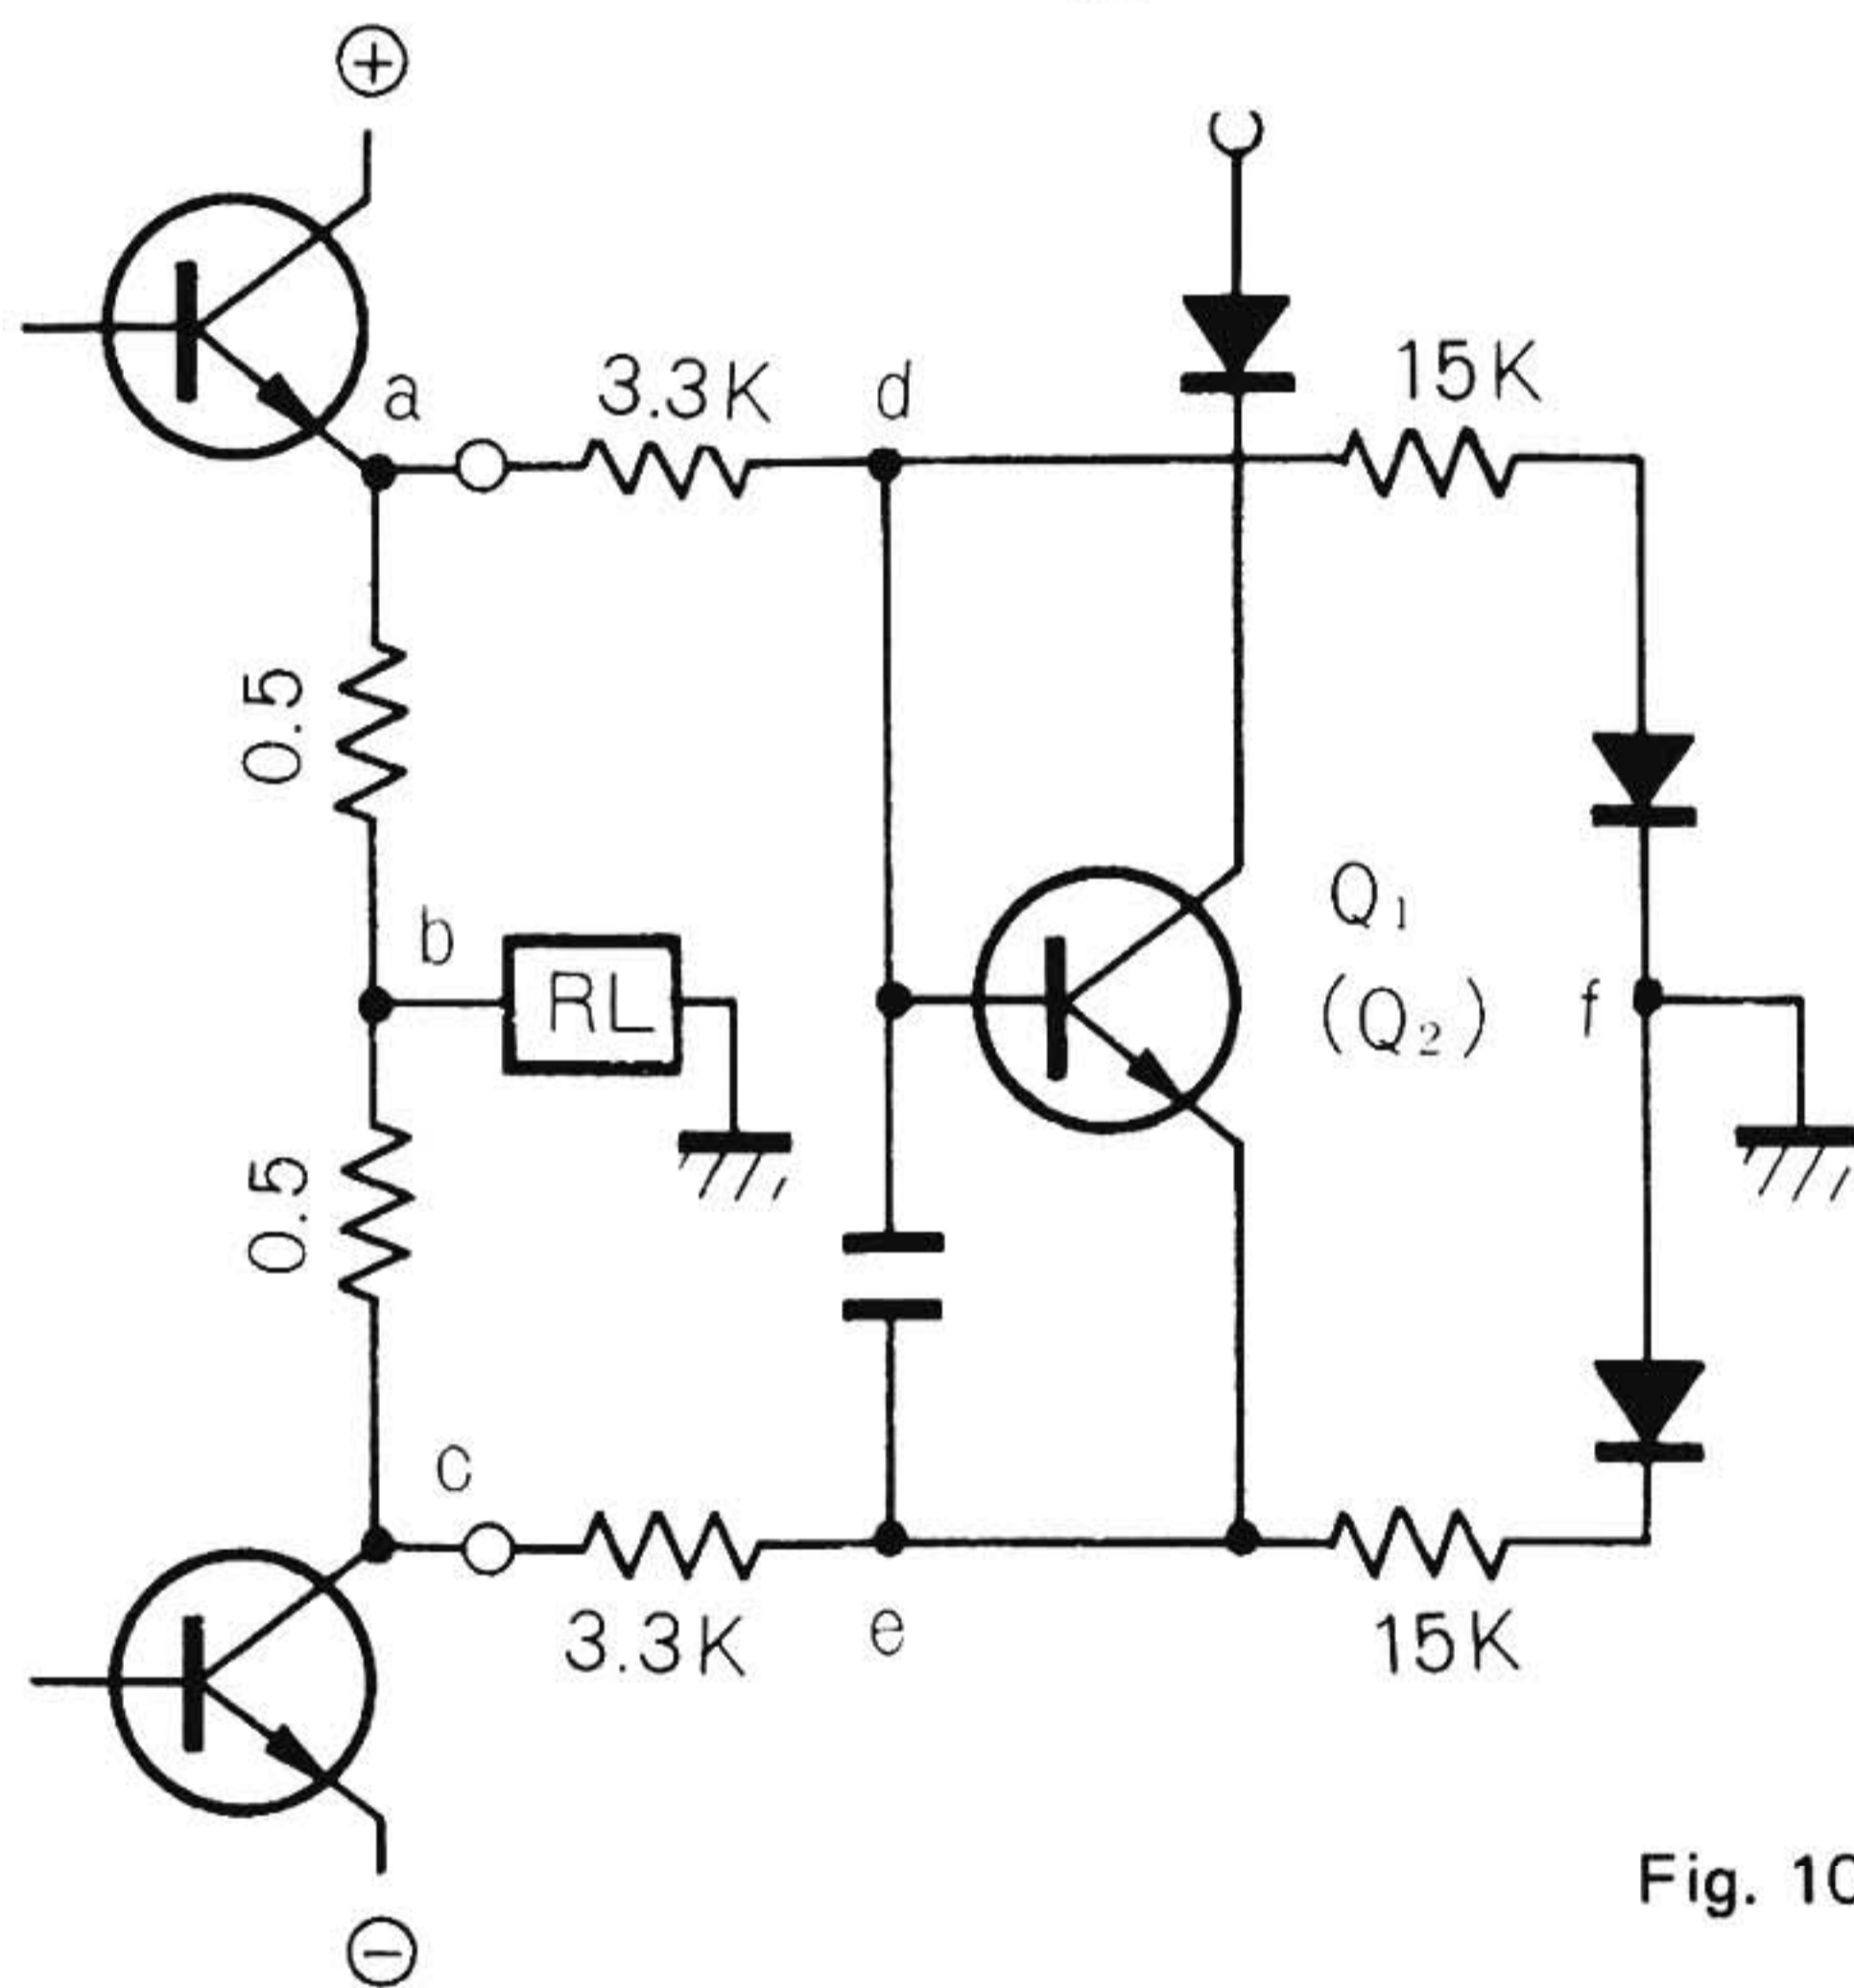
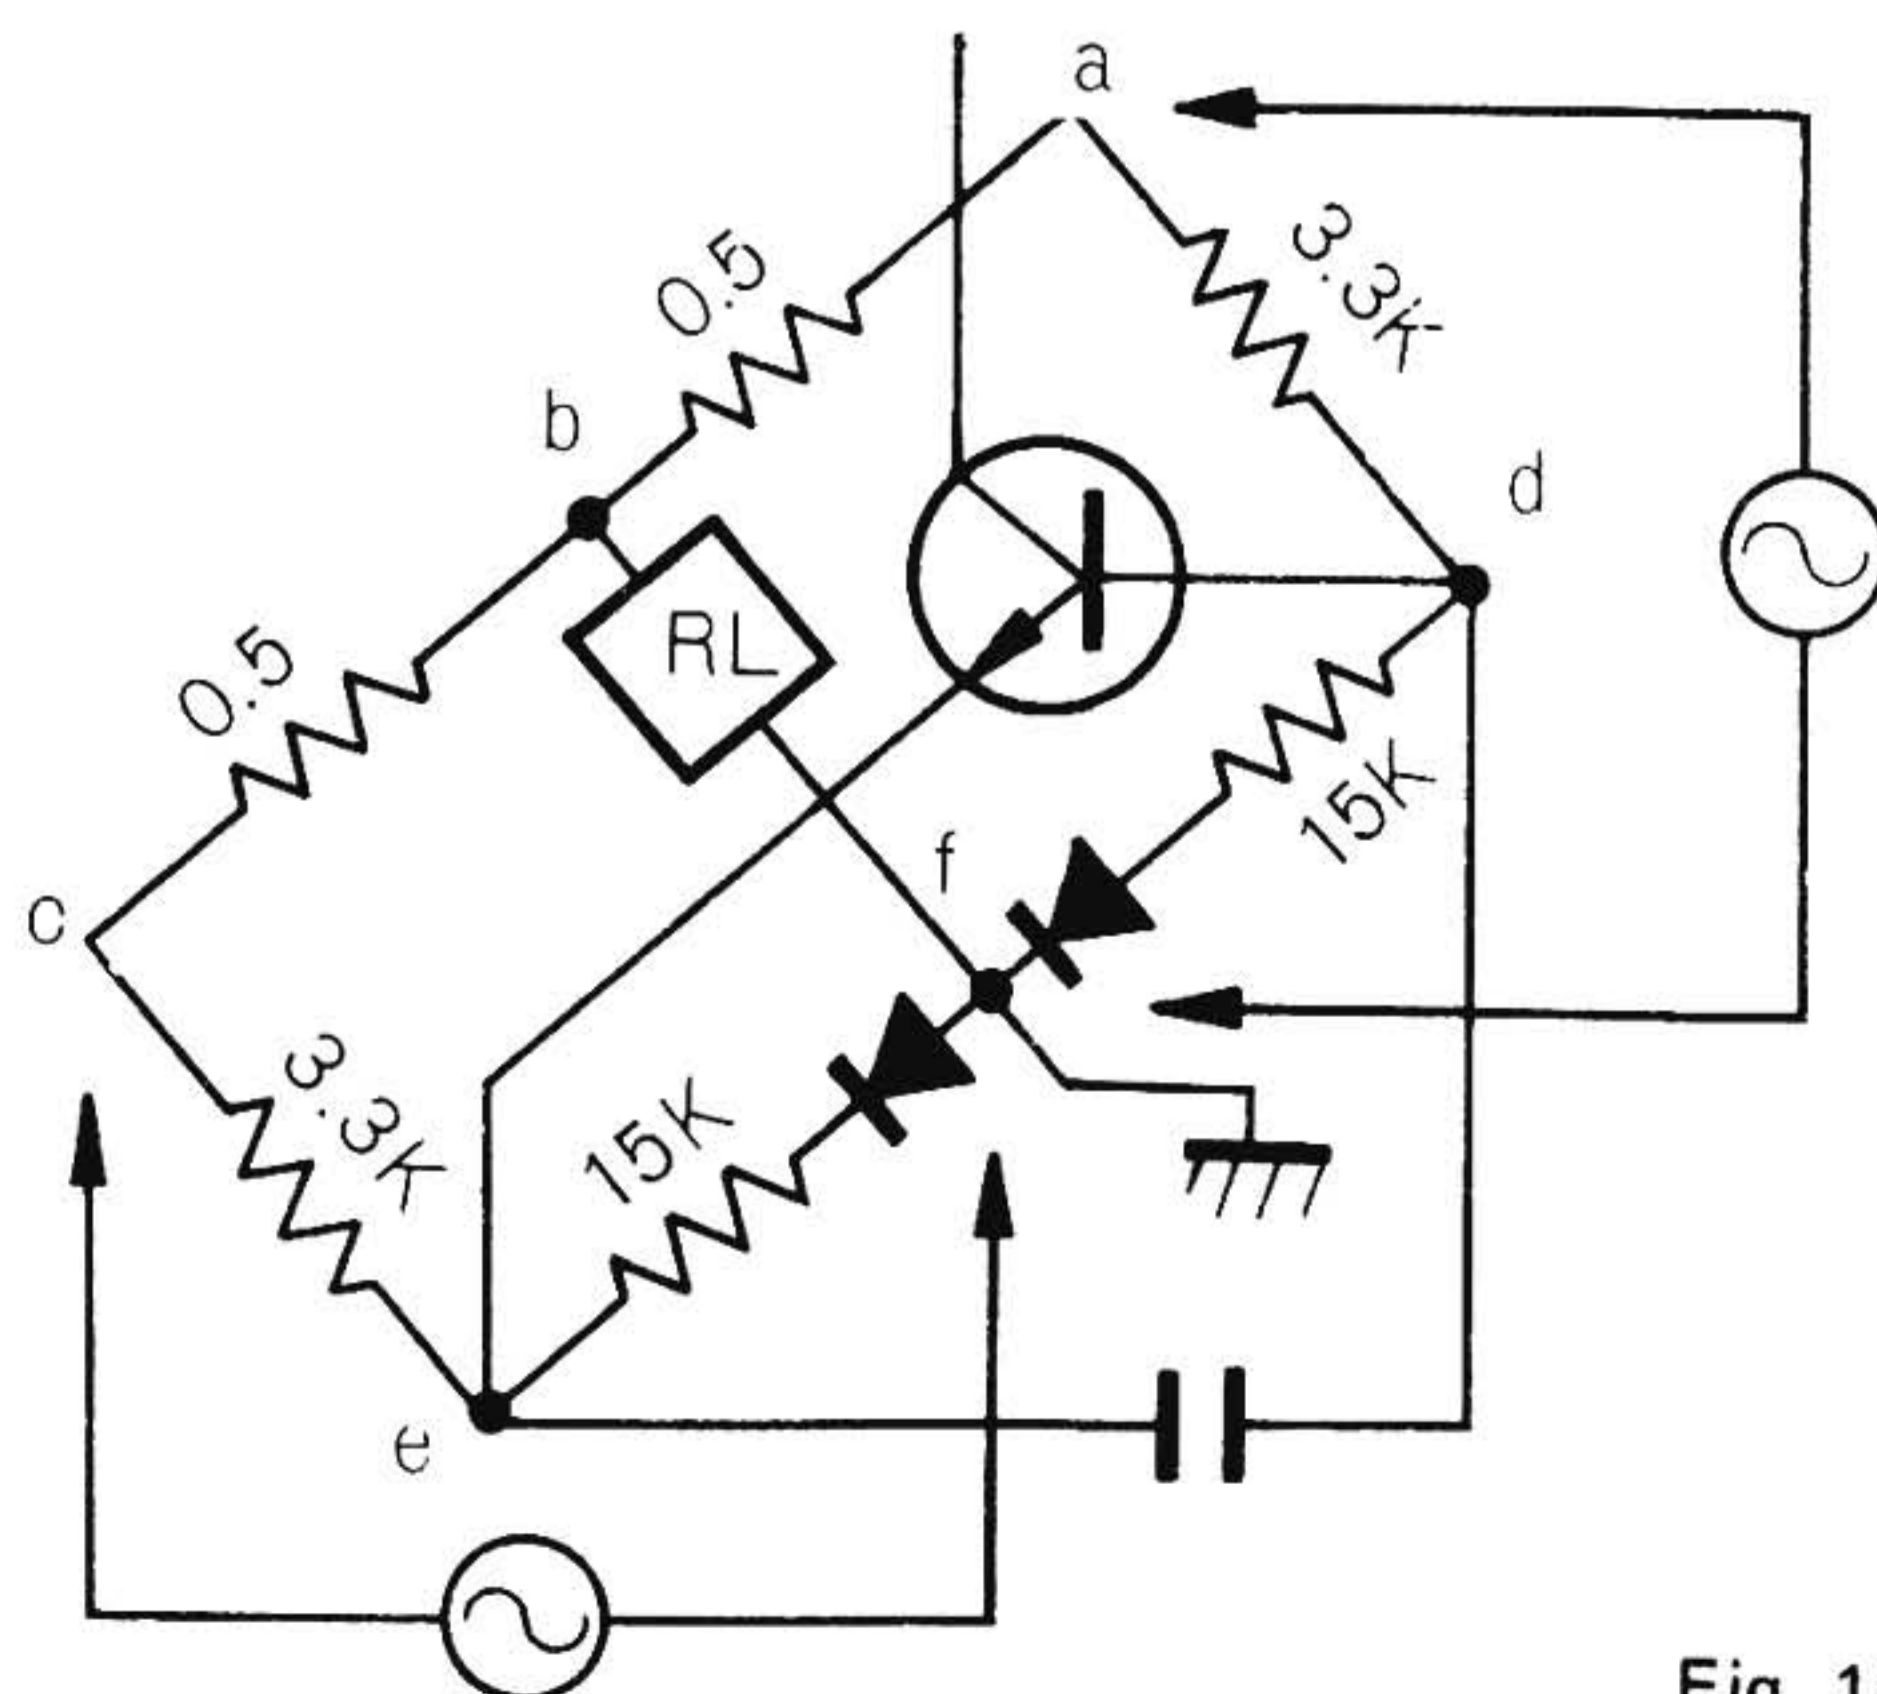

Fig. 10
Fig. 11
Fig. 10 shows the detector circuit including the chained power transistors and the output load (RL).
Next, let us examine the condition with a signal supplied and the chained transistors delivering power into the RL RL (see fig. 11).
equal phase are generated between points ① and ② in figs. 10 and 11. Therefore, no potential difference exists between ① and ②, the voltage between base and emitter of Q1 is 0V, and Q1 is cut off in the negative half cycle. Points ② and ③ are 0V, as above. If, however, RL drops to 2 ohms or below, the bridge circuit shown in fig. 11 becomes unbalanced within half a signal cycle, a voltage is applied between base and emitter of Q1, Q1 becomes conductive, and Q5 is triggered.